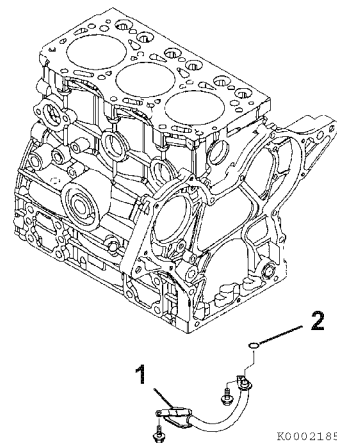

Figure 6-45
- Remove the oil pickup tube (Figure 6-45, (1)) and O-ring (Figure 6-45, (2)).